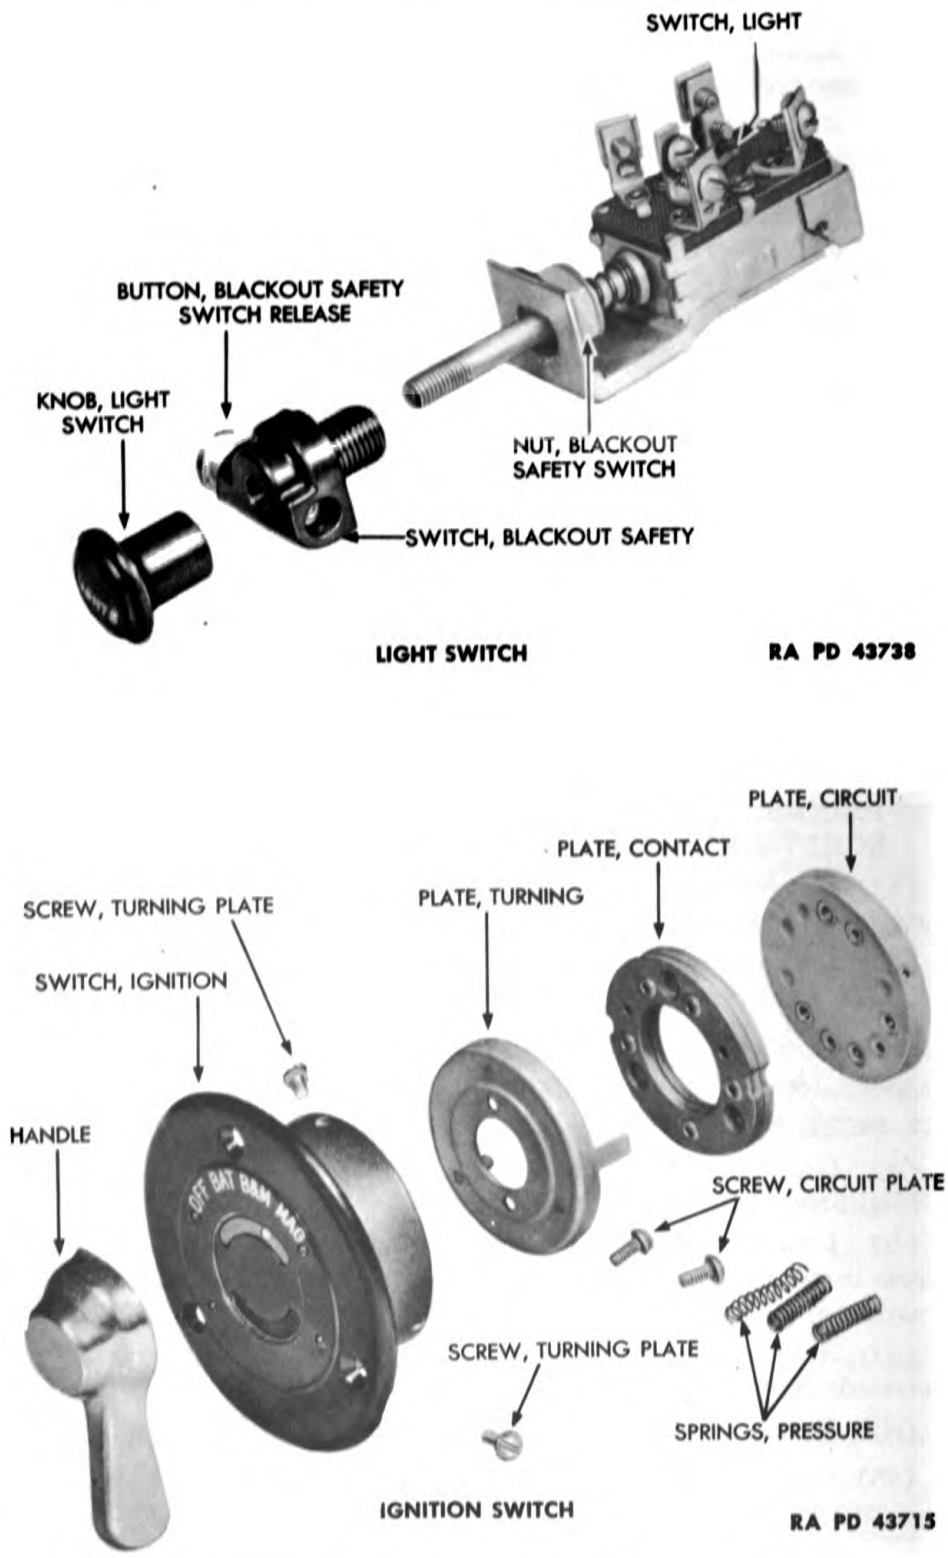

Figure 116—Light and Ignition Switches—Exploded Views
(49) DISASSEMBLE IGNITION SWITCH (fig. 116).
(b) Press in on the blackout safety switch release button (fig. 116) and push blackout safety switch on front end of light switch. Release blackout safety switch release button and tighten blackout safety switch nut ($\frac{3}{4}$ -in. open-end wrench).